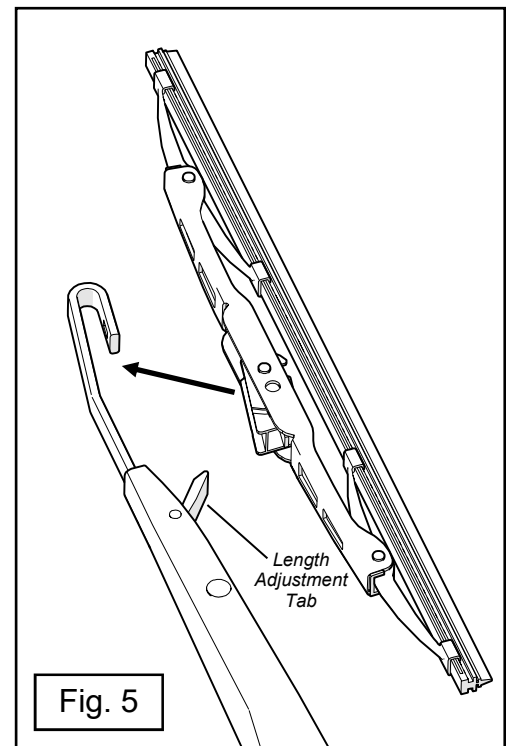

Fig. 5
- 5.1 Install the wiper blade onto the wiper arm, engaging the retainer clip into the J-hook on the arm. (see Fig. 5).